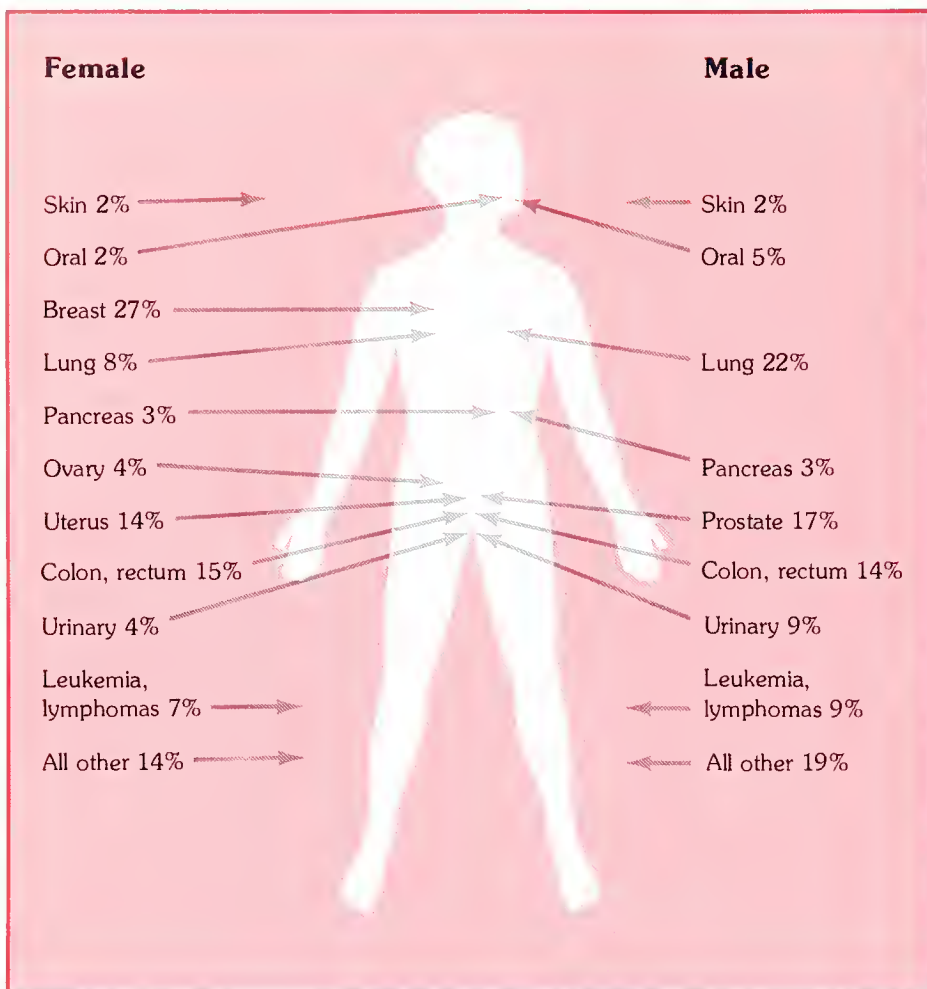

Fig. 1. Estimated cancer incidence for 1980 by site and sex, excluding non-melanoma skin cancer and carcinoma in situ. Source of data: American Cancer Society.
**Epidemiology.** Statistics show that 100 kinds of cancers are found in humans (Fig. 1). The most common are cancer of the lung, large intestine, breast, pancreas, prostate, stomach, and blood (leukemia). These seven account for 60 percent of all deaths due to cancer. Except for lung cancer and leukemia, the other five are strongly associated with diet and life-style rather than with environmental contamination.